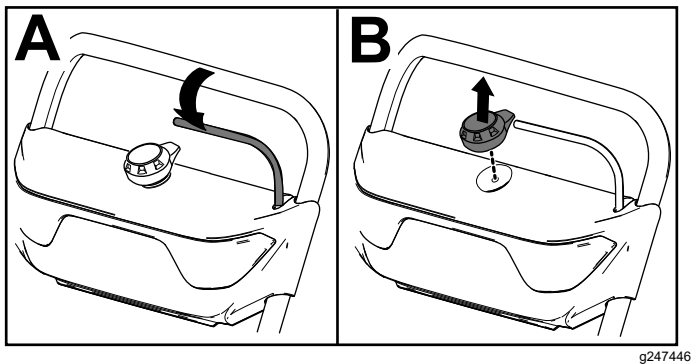

Figure 13
1. Release the bail (A of Figure 13).
2. Remove the electric-start button from the electric starter (B of Figure 13).